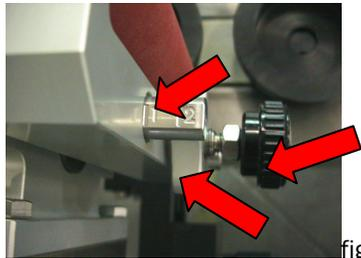
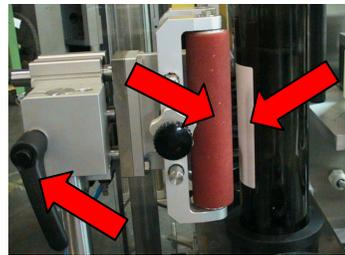

fig.6
fig.7
First occur to set the distance between contrast rolls in function the the bottle's diameter through the little knob and relative lock ring ( fig.6 ). About height adjustment is possibile do that though the jaccarde fig.7, adjust approx. between the label's height size fig.7 :
- per diameters from 50 up to 70 mm, set on reference mark 1 ( fig 6 )